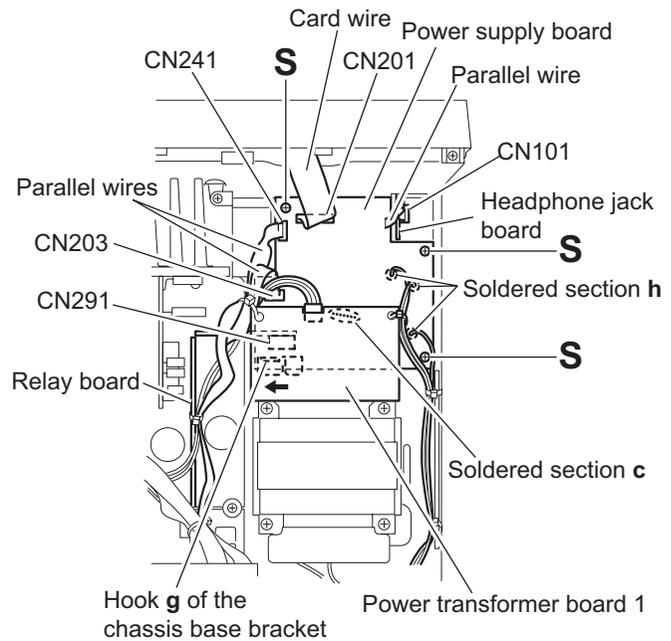

Fig.14
(See Fig.14)
(See Figs.14 and 15)
- (1) From the top side of the main body, disconnect the parallel wire from the connector CN101 on the headphone jack board. (See Fig.14)